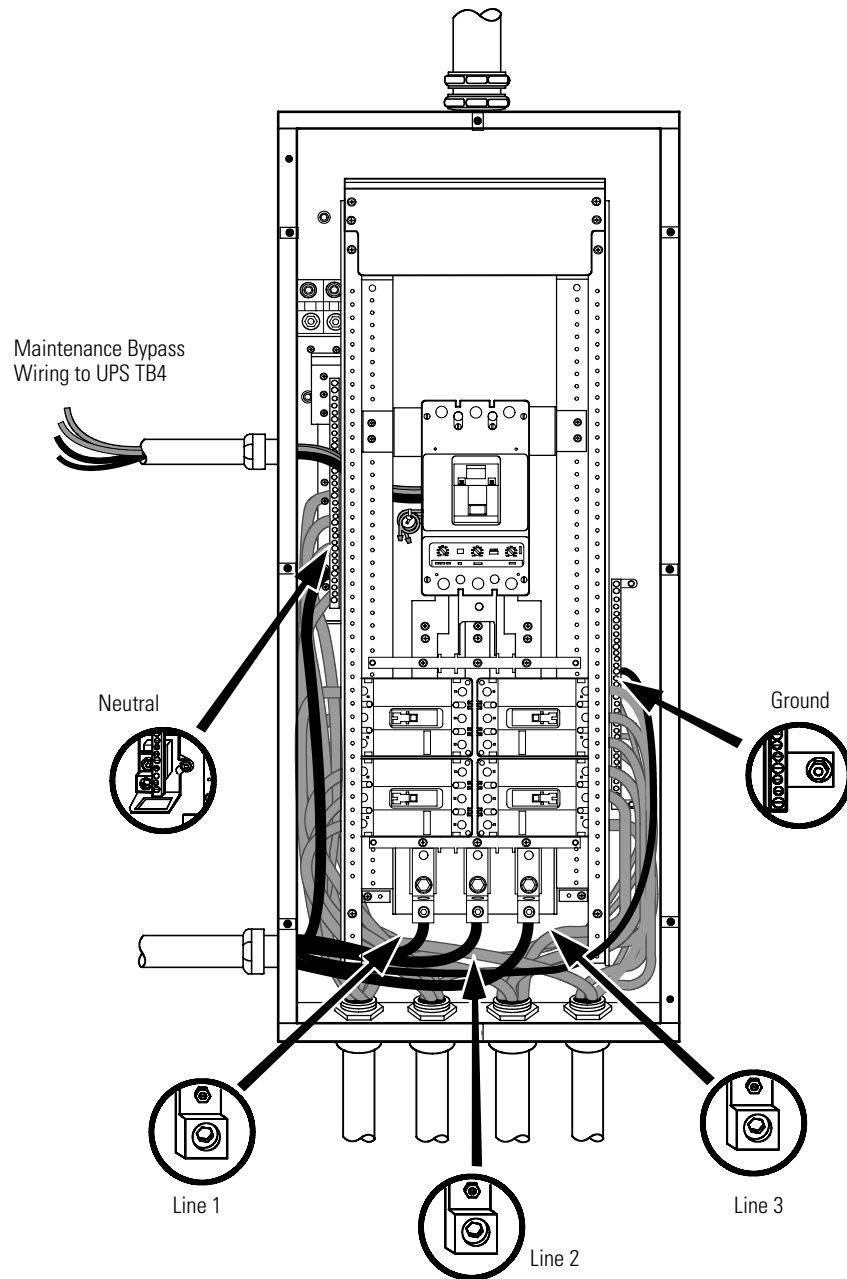

Figure 8. Load Connections
21. Hardwire the load to the Tie Cabinet (see Figure 8).